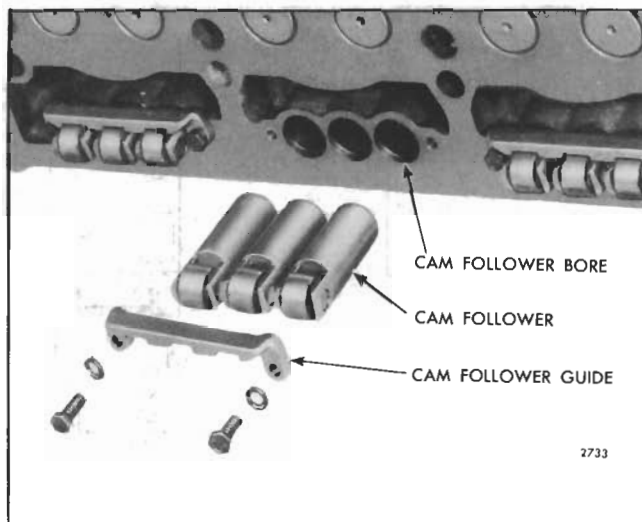

Fig. 4 - Cam Followers and Guide
1. Rest the cylinder head on its side (Fig. 4) and remove the cam follower guide.